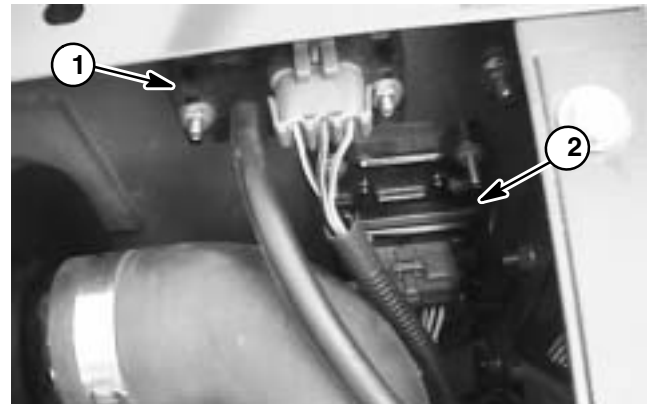

Figure 16
B. Unplug connectors from vacuum sensor module, fuse holder and ignition control module located under passenger seat (Fig. 16). Remove vacuum line from vacuum sensor.
B. Install harness connectors to vacuum sensor module, fuse holder and ignition control module located under passenger seat (Fig. 16). Install vacuum line to vacuum sensor.